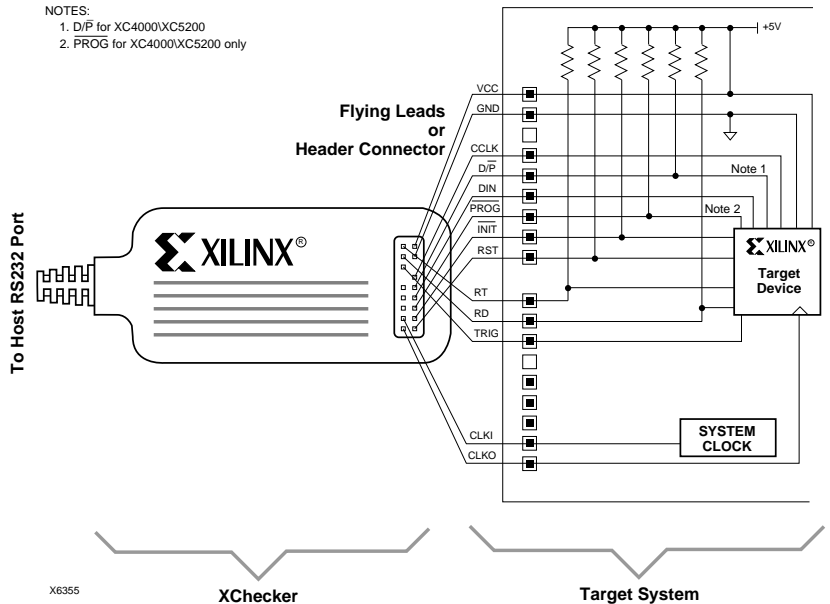

Figure 3-12 XChecker Cable Connections for Synchronous Probing
Connect XChecker to the target FPGA, as shown in Figure 3-12. This step allows you to download, probe, and verify your design.
- Be sure to connect the XChecker CLKO and CLKI pins, as shown in Figure 3-12, from the clock source to the XChecker CLKI and from the CLKO to your target FPGA. This connection allows XChecker to control the target FPGA system clock. If you are using the sample design, consult Table 3-2 (or the xroms.rpt file) and connect a jumper between the signals FROM_CLKO and TO_CLKI to the XChecker CLKO and CLKI pins, respectively.
You must stop the FPGA system clock while readback is in progress to obtain a static “snapshot” of the internal logic states. XChecker controls the FPGA system clock if appropriate clock connections have been made. See Figure 3-12.